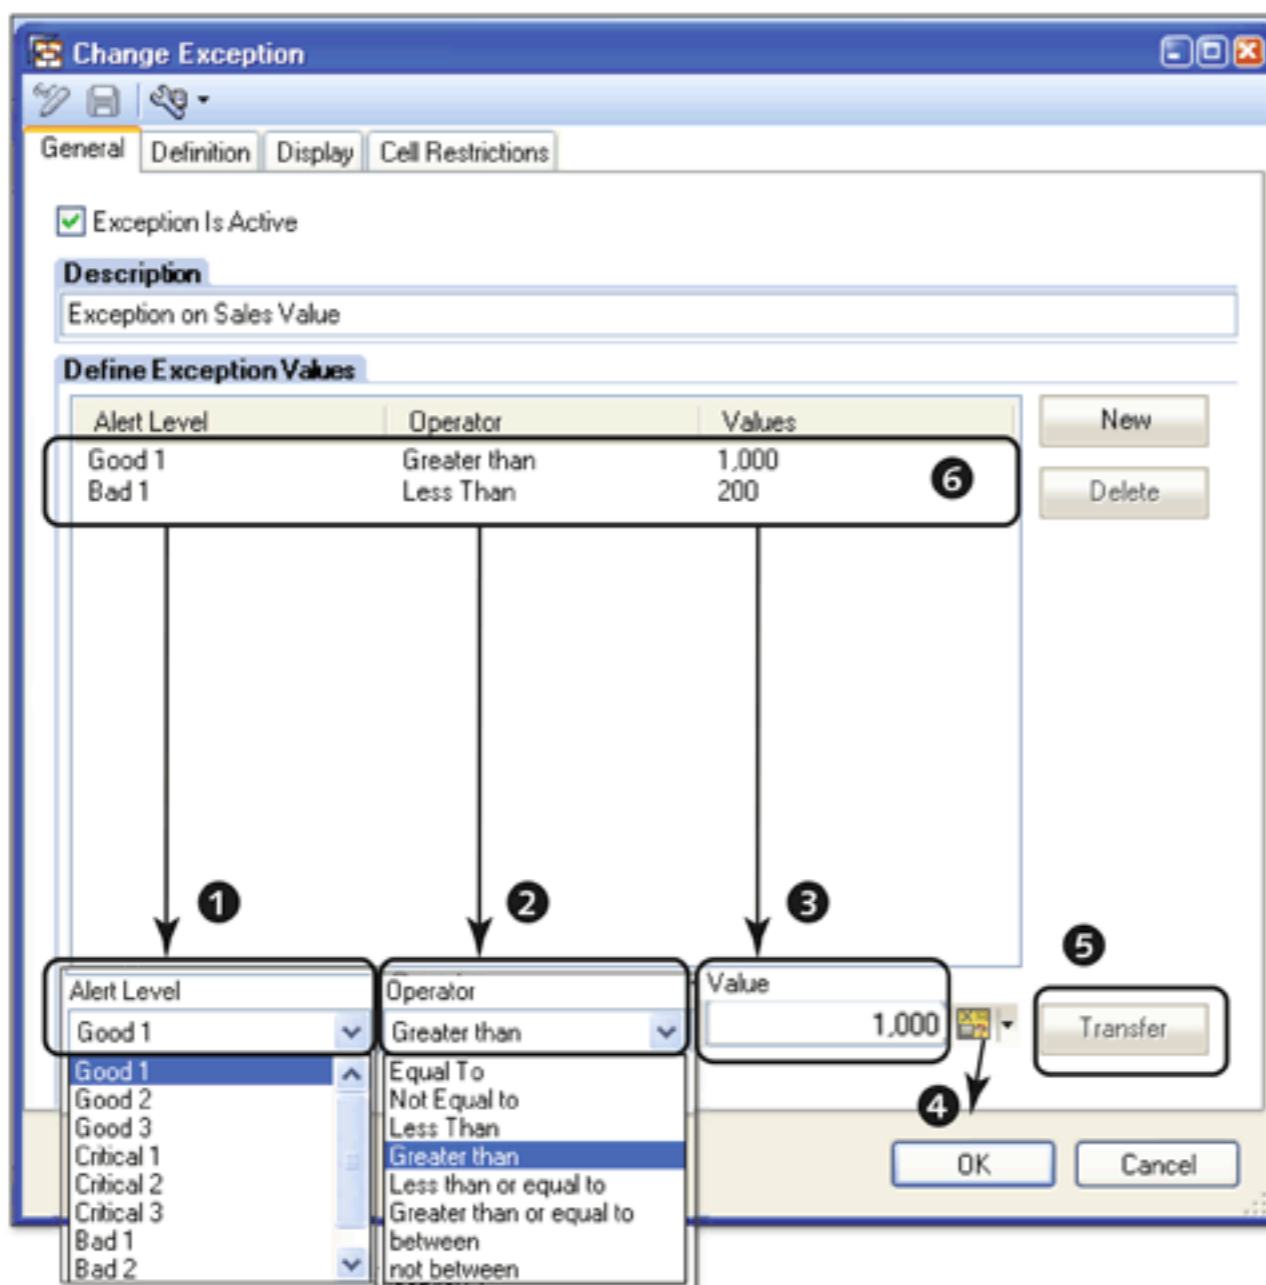

Figure 9.88 Define Exception Values
Click on the NEW button (❶ of 9.87) to define the threshold values for the exception. Define the exception values by maintaining the fields as shown in Figure 9.88. Select the ALERT LEVEL (❶); for example, GOOD1 for green or BAD1 for red. Then select the OPERATOR from the dropdown (❷) to define the exception, and then specify the threshold value in the VALUE field (❸). You can also use a variable for the value to make the exception more flexible (❹). Finally, click on the TRANSFER button to transfer the defined exception (❺). All of the defined exceptions are visible (❻).